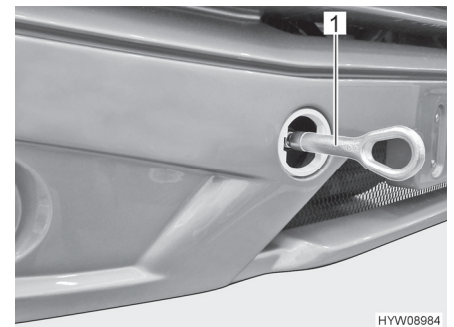

Fig. 42 Towing eye (mounted)
- Mount the towing eye (Fig. 42,1) in accordance with the instructions in the operating manual of the base vehicle.